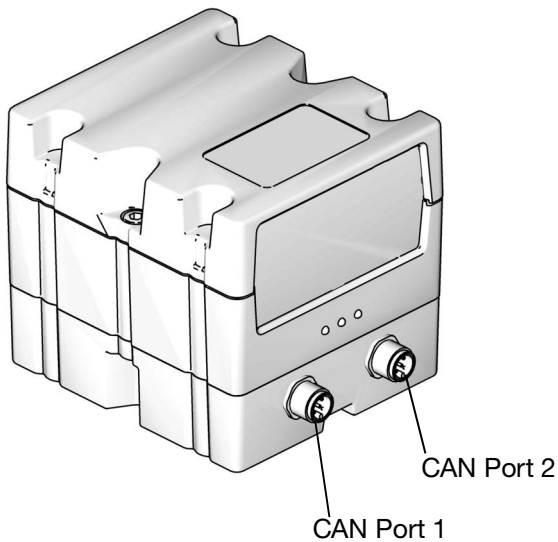

Fig. 32: CGM CAN Connections
10. Connect the other end of the CAN cable to either CAN port 1 or 2 on the CGM. See FIG. 32. It can be connected to either port.